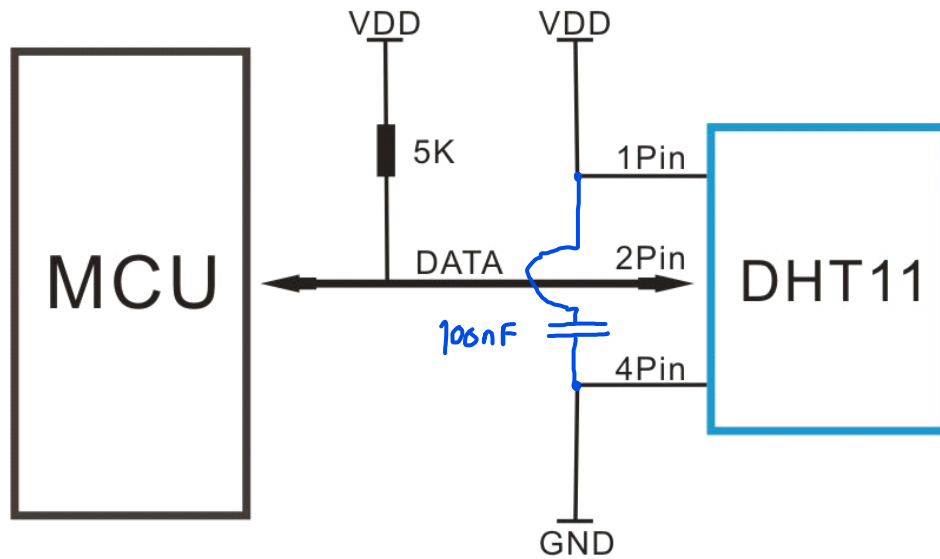

Figure 1 Typical Application
3. Typical Application (Figure 1)